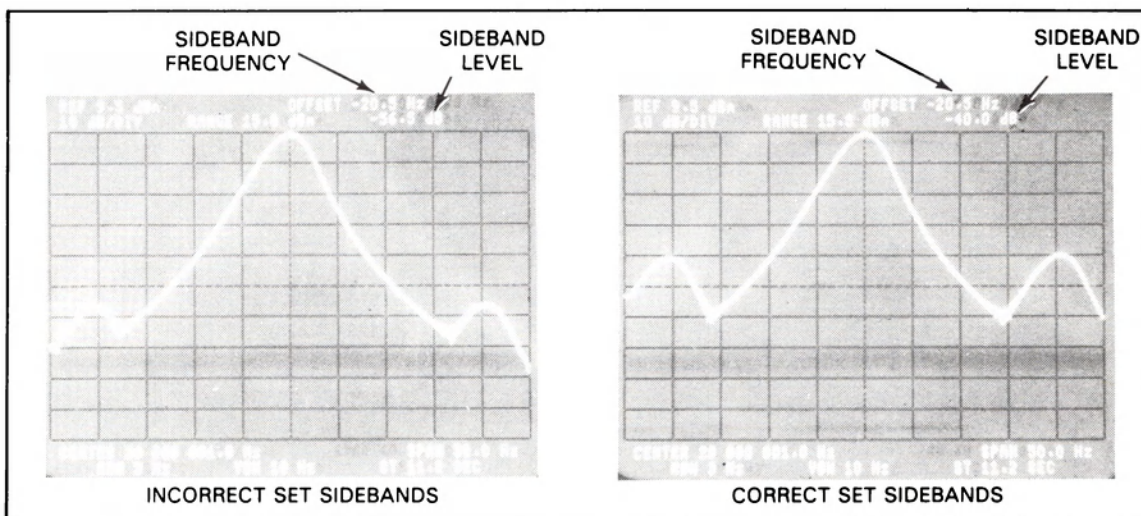

Figure 7-28. Phase Noise Discrete Tone Accuracy Test Adjustments
- f. Adjust the -hp- 3312A amplitude until the 20 Hz sidebands are approximately 40 dBm below the 20 MHz carrier. (See Figure 7-28)